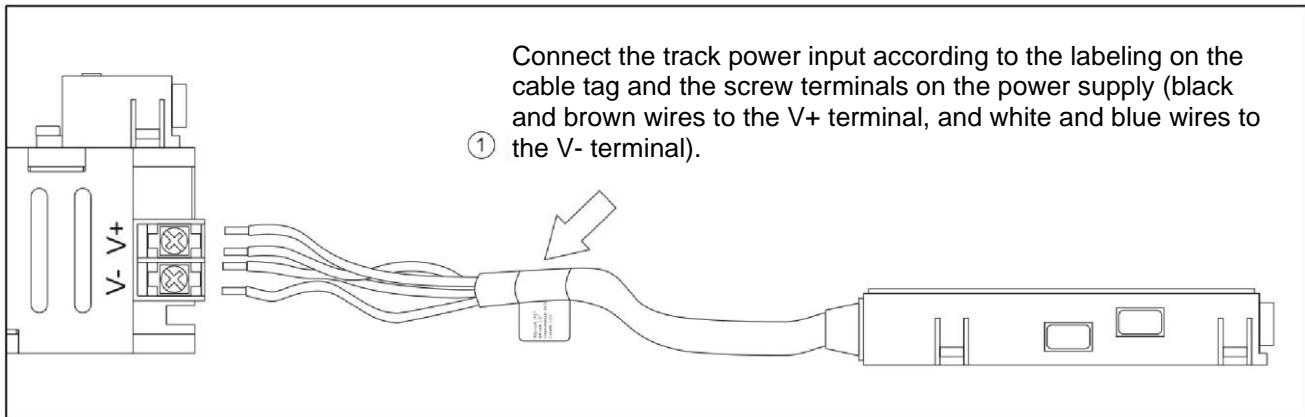

Figure 1: Connecting Track Power Input
- Connect the track power supply input wires to the appropriate screw terminals on the power supply (brown or black wires to V+ terminal, and white or blue wires to V-). Refer to Fig. 1.